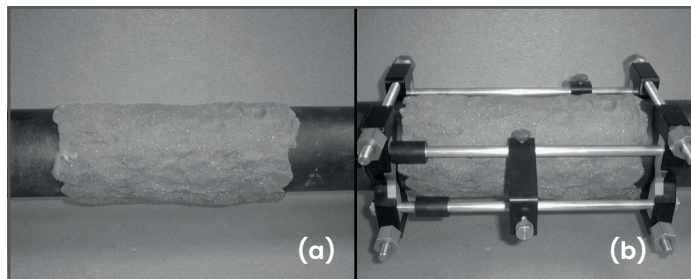

Figure 40: Spreading the DMP-3 (a) and Reinstalling the Fixture (b)
6. Spread the DMP-3 material so that it covers the whole area under the fixture to a thickness of about 0.25 in. (6.4 mm), as shown in *Figure 40*.
7. Position the transducer yokes to the correct spacing and reinstall the fixture around, but not on, the DMP-3 material, as shown in *Figure 40*.